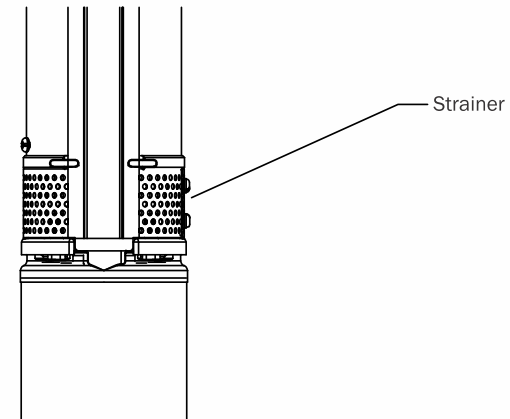

Fig. 4.7
- Position the wire alongside the submersible drop cable, Fig.4.7